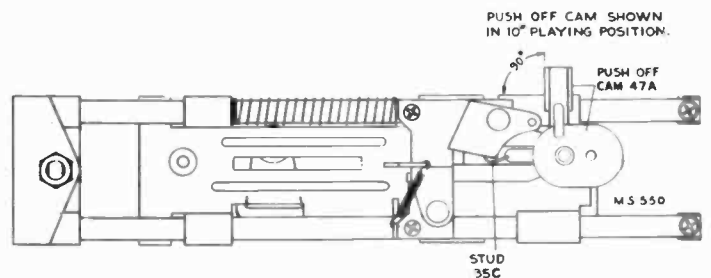

FIG. 10
1. With the mechanism out of cycle, turn the push-off cam 47A so that its arm makes a 90° angle with the slide bars as shown in fig. 10. Make certain the large radius side of cam is toward the stud 35C when the support post is in the 12-inch position.